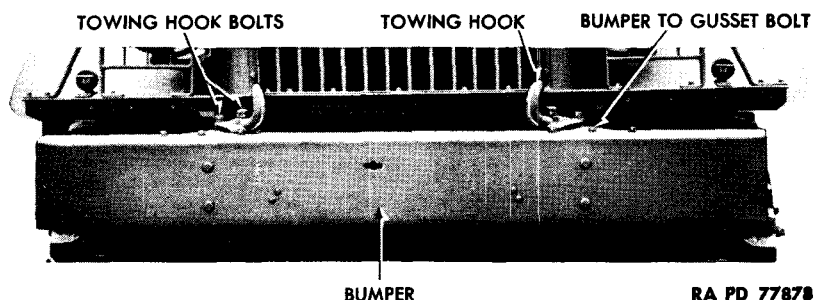

Figure 93 – Bumper and Towing Hooks Installed
a. **Description** (fig. 93). The bumper is attached to frame side rails at front of the vehicle for protection of vehicle, and for attaching a towing or lifting device to truck. A hole in center permits use of the starting crank through the bumper.
a. **Description** (fig. 93). Two towing hooks are attached to bumper gussets at front of vehicle for attaching towing cable.